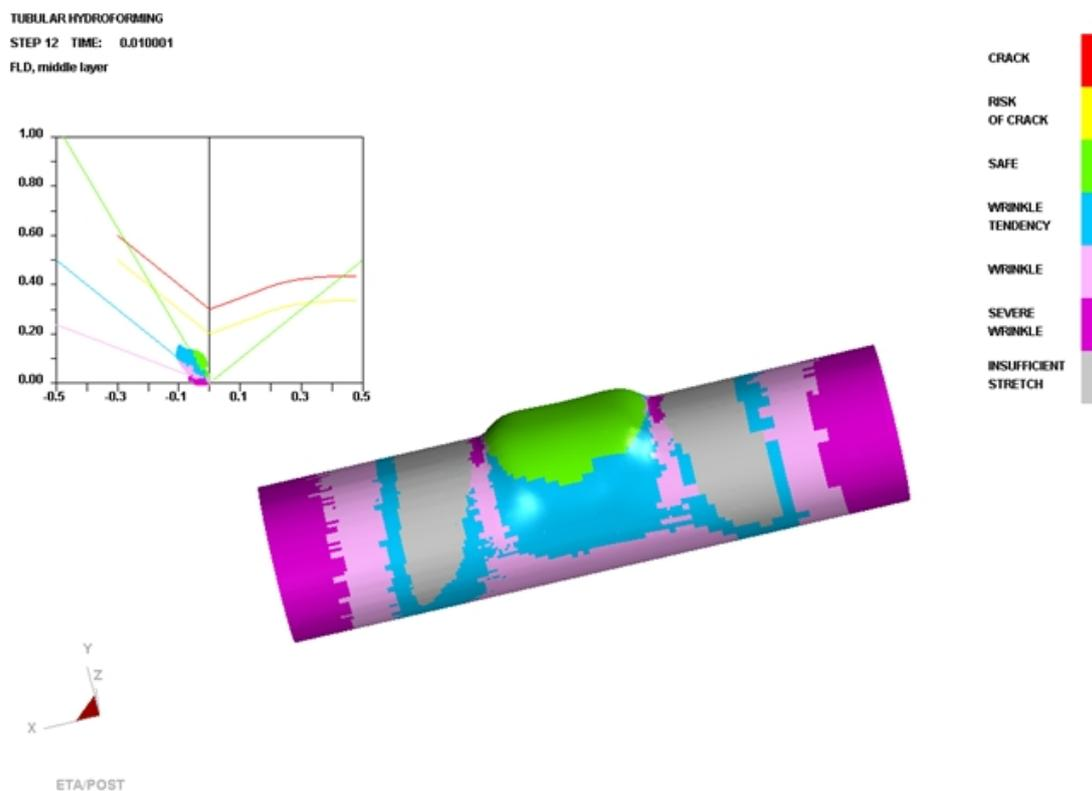

Figure 3.53 FLD contour
6. Click **Play** button to animate the FLD contour of hydroformed tube, the last frame of the FLD contour as illustrated in Figure 3.53